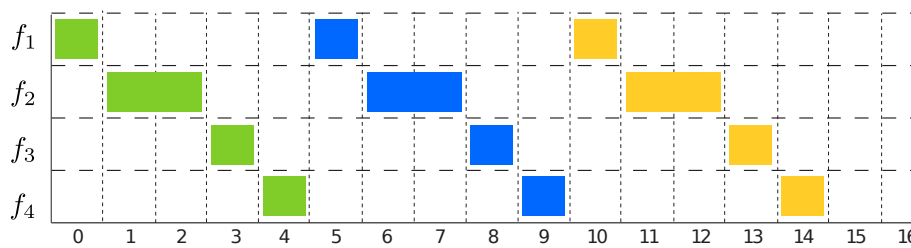

Figure 8: Pipelined Scheduling with resource constraints
- (d) (3 points) Now assume that, there are only one multiplier to compute f1, f3 or f4 available. First, depict a pipelined scheduling in Figure 8 under this resource constraint with a predefined minimal iteration interval  $P = 5$ . Then, indicate the latency  $L$  of the schedule. Draw three consecutive iterations, and mark different iterations clearly, e.g. with different colors, different textures, or different numbers.